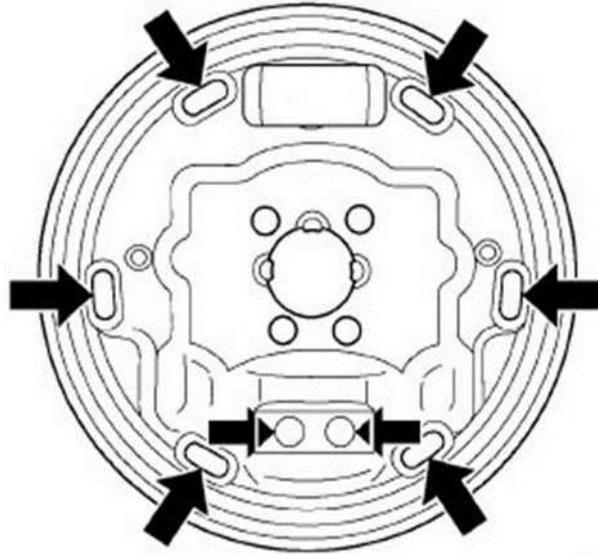

Fig. 7 Apply Lubricant To Backing Plate
18. Lubricate the shoe contact areas on the backing plate and anchor using Mopar® Brake Lubricant or equivalent (Fig. 7).